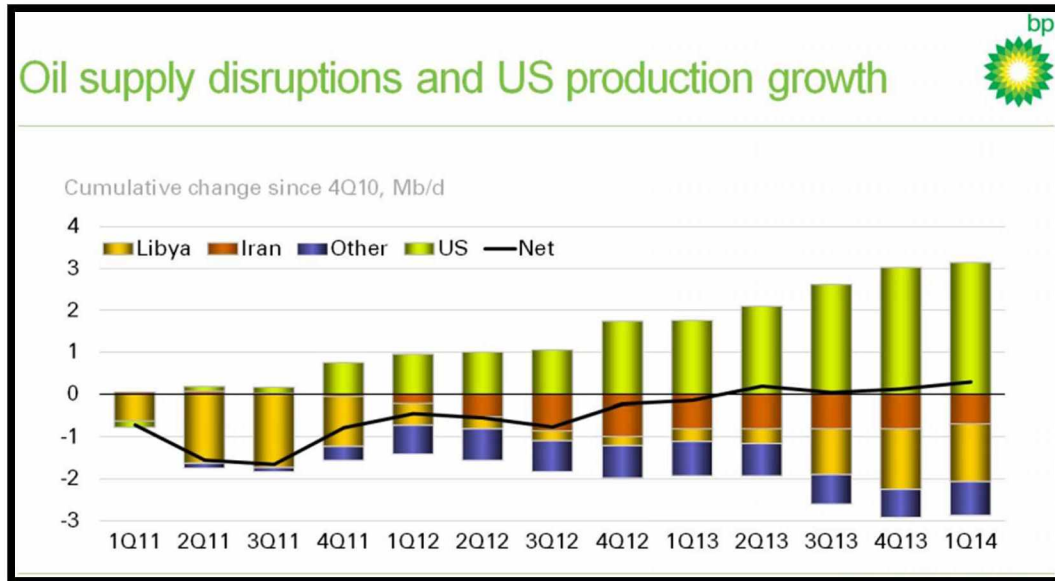

Fig 1. Oil Supply Disruptions and US Production Growth. 2013 BP Statistical Review. British Petroleum, 2014.
British Petroleum (BP) has been predicting a price drop from as early as 2012. Their argument was simple: U.S. supply is increasing faster than world demand which should lead to lower prices. Even as prices continued to climb, BP did not back down from their stance. Their claim was that the increased supply was being offset by supply disruptions around the world. From the 2013 BP Statistical Review, “We are familiar with the ongoing story of rapid growth in the US; but it was also yet another year of significant supply disruptions, most notably in North Africa and the Middle East.” Figure 1 demonstrates this uneasy equilibrium where supply remained relatively unchanged.